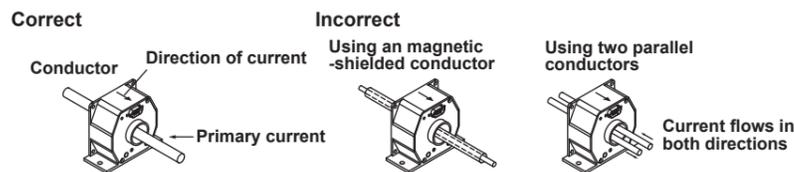

Figure 3. Insertion of a Conductor
3. Insert the primary conductor into the primary conductor feed-through hole on the device. Make sure that the direction of current flow matches the arrow on the device. Figure 3 is for the examples in use with CT200 and CT60. The same idea is applied to CT1000 as well.